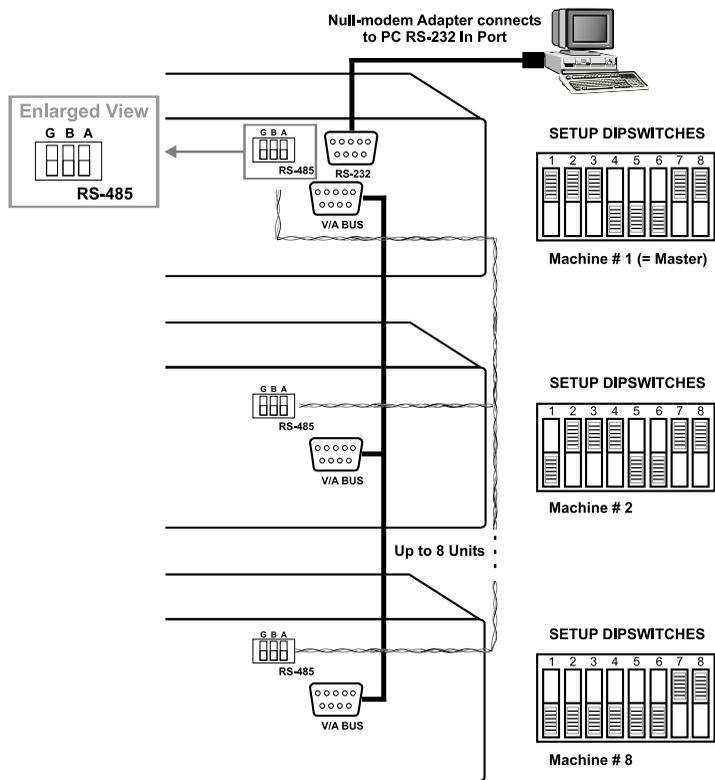

Figure 7: Cascading Units in an Input Expansion Configuration
You can cascade up to 8 interconnected **VS-402xl/VS-602xl** units to form an input expansion configuration. For example, to create a 48 x 2 switcher, with 48 inputs and 2 outputs, connect as Figure 7 illustrates.
3. Connect the RS-485 terminal block port on the first **VS-402xl/VS-602xl** unit to the RS-485 port on the second **VS-402xl/VS-602xl** unit and so on, connecting all the RS-485 ports, as Figure 7 illustrates.
4. Interconnect the V/A (video/audio) *BUS* DB9F connectors between the **VS-402xl/VS-602xl** units², as Figure 7 illustrates, using a 9 wire flat cable³ with DB9M connectors, as follows: